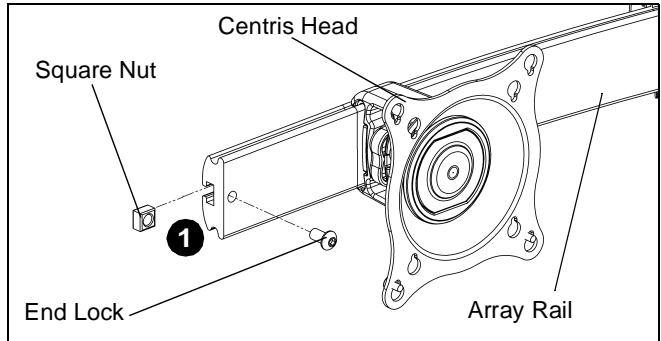

Figure 10
1. Uninstall end lock using the 5/32" hex key (J). (See Figure 10)